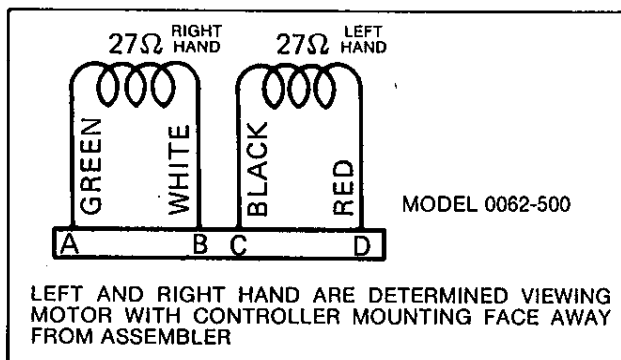

Figure 7. Wiring Schematic
- r. Position controller on a clean, flat surface, and resting on installed end plate (18).
- s. Repeat steps (d), (e) and (f) for installation of orifice assembly (22), O-ring (23), seal plate arrangement (19/20) and end plate (18) on right end of controller body (27).
- t. Apply a small amount of lubricant to feedback spring attachment point on barrel and shaft assembly (32).
- u. Install feedback spring (end loops approximately same size) between barrel and shaft assembly (32), of the controller body (27), and the flapper extension of the torque motor assembly (11). See View 1.
- v. Install bias spring between retainer assembly of the null adjustment and the flapper extension of the torque motor assembly (11). Shorter loop of bias spring should engage flapper extension. See View 1.
- w. Install electrical connector (6) as follows:
2. Solder four torque motor coil lead wires to electrical connector (6) terminals per Figure 7.
3. Slide teflon sleeves over soldered connections on electrical connector (6).